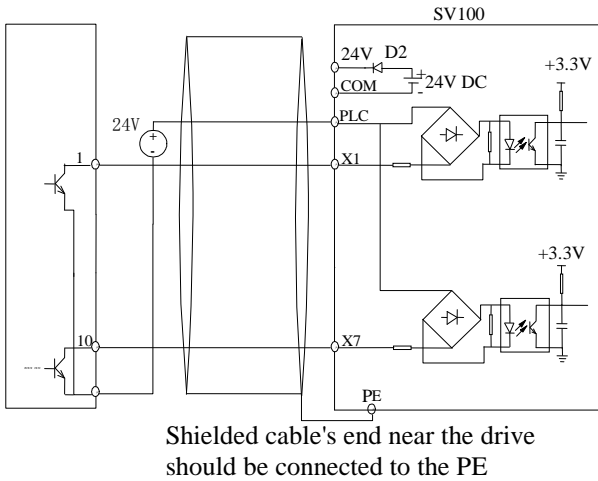

Fig 4-11 Source connection if use the external power supply
3) Source connection if using the external power supply (Make sure the PLC and 24v terminal is disconnected). As shown in the fig.4-11